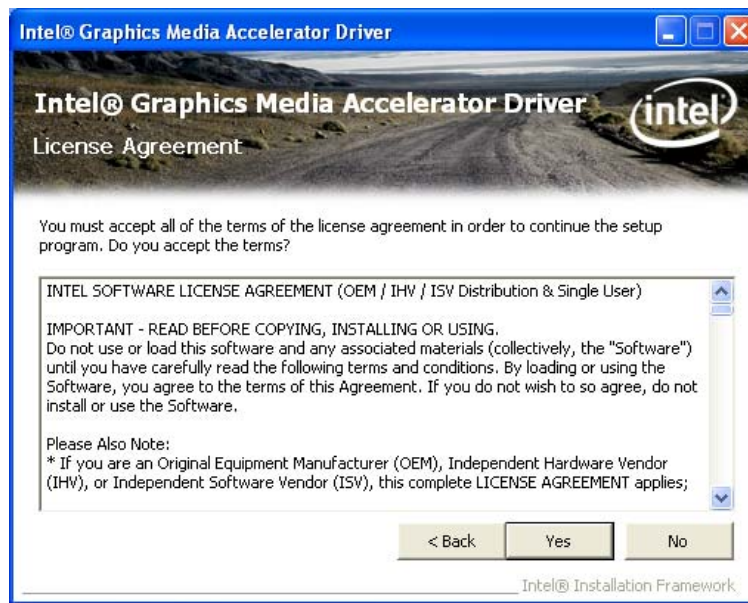

Figure 7-13: VGA Driver License Agreement
- Step 8:** The license agreement in **Figure 7-13** appears.